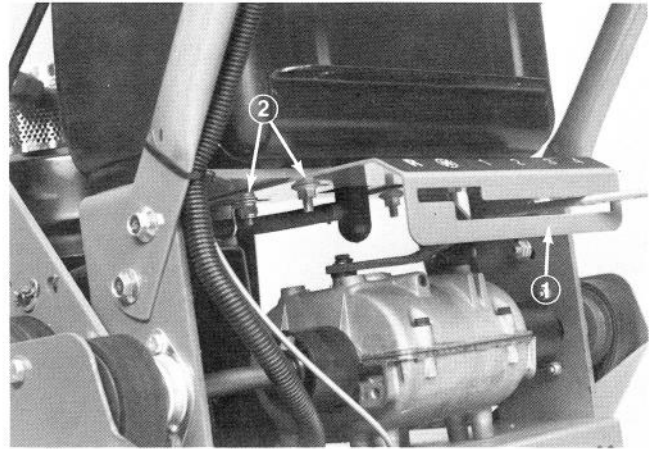

Figure 22
1. Loosen four locknuts securing control panel to rear frame (Fig. 22).